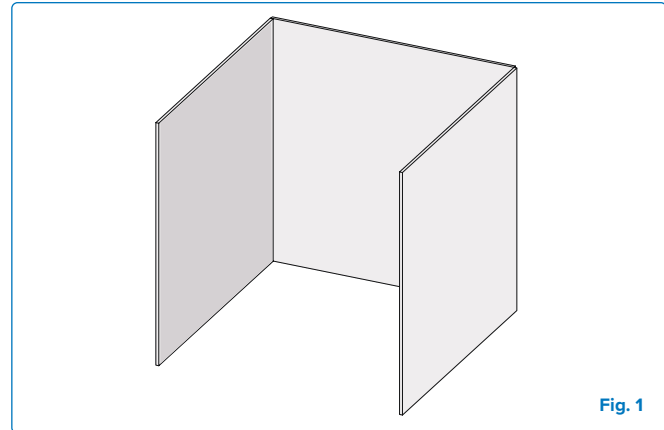

Fig. 1
- An appliance is considered to be outdoors if installed with shelter no more inclusive than with walls on three sides, but with no overhead cover. **(Fig 1)**